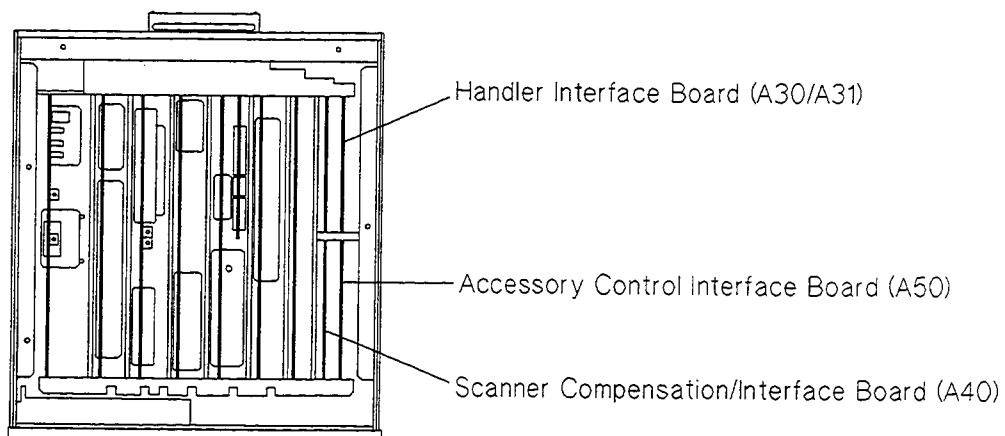

Figure 1-20. Interface Board Locations
6. Disconnect the flat cable from the handler interface board, the board with **ORANGE** and a **RED** extractors. See Figure 1-20.
2. Disconnect the flat cable from the handler interface board. The handler interface board has **ORANGE** and **BROWN** extractors and its location is shown in Figure 1-20 (page 1-34).
2. Disconnect the flat cable from the scanner interface board. The scanner interface board has **BLACK** and **YELLOW** extractors and its location is shown in Figure 1-20 (page 1-34).